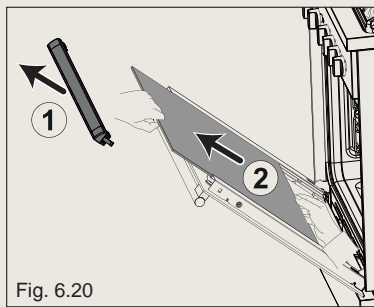

Fig. 6.20
- * Press the tabs on the sides of the glass retainer which is positioned at the top of the oven door (arrows in fig. 6.23), then gently remove the retainer (arrow 1 in fig. 6.20).